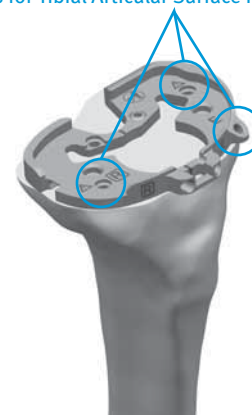

Fig. 50
- When the desired position has been attained, secure the Cemented Tibial Sizing Plate by placing 25mm x 3.2mm (2.5mm female hex) screws or 25mm x 3.2mm short head holding pins in the medial and lateral holes near the PCL cutout of the Cemented Tibial Sizing Plate (Fig. 49b). The remaining adjunct fixation holes shown on the surface of the Cemented Tibial Sizing Plate can be used if necessary. If the Cemented Tibial Sizing Plate is to be used as a provisional in later steps, male-headed screws/pins used in these holes must be removed prior to using the Tibial Articular Surface Provisionals (TASPs) (Fig 50). Ensure that the Cemented Tibial Sizing Plate remains in the proper position when securing it to the bone. Once desired alignment has been verified with the Alignment Rod, remove the Tibial Sizing Plate Handle from the Cemented Tibial Sizing Plate.